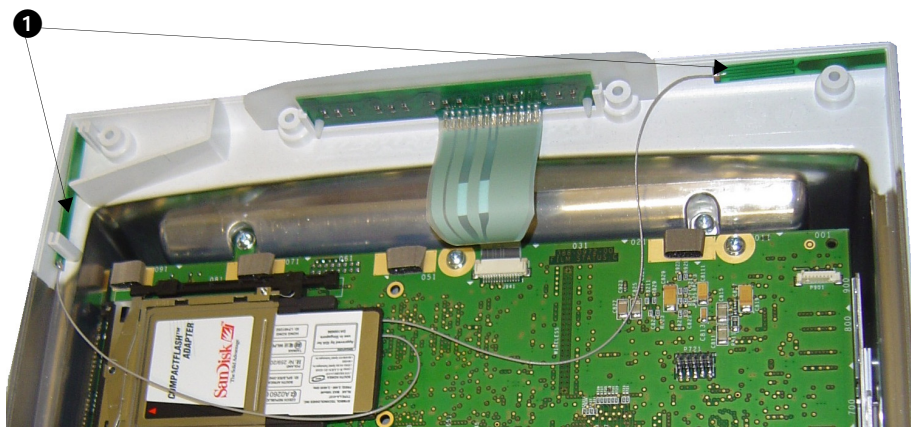

Figure 4-14: Antenna placement
- 6 Refer to *Figure 4-14* for the correct antenna placement (1).